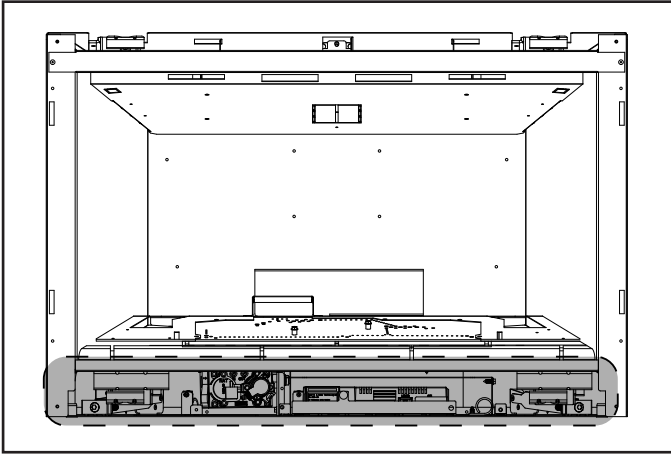

Figure 3.7 Control Cavity
- 1. Access the control cavity of the appliance. See Figure 3.7 for location. The decorative front will need to be removed.